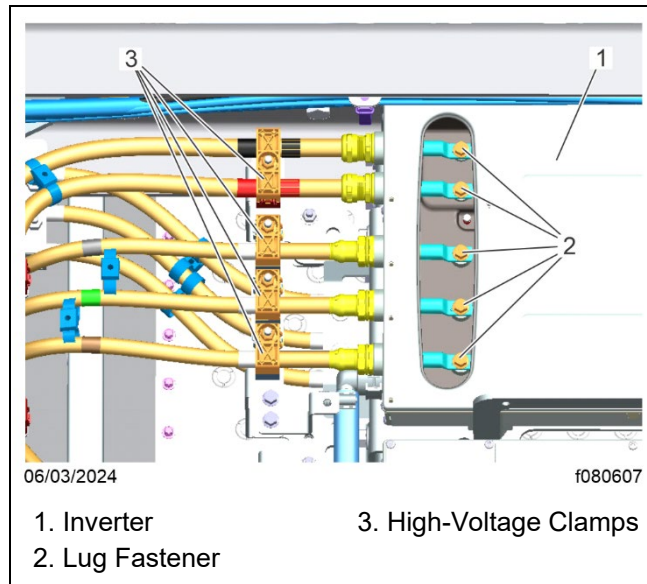

Fig. 9, High-Voltage Cable Clamps
8. Inspect all the inverter lug fasteners for the correct torque of 17 lbf·ft (23 N·m) by tightening the fasteners. Fill out the torque values in Table 5. See Fig. 9.